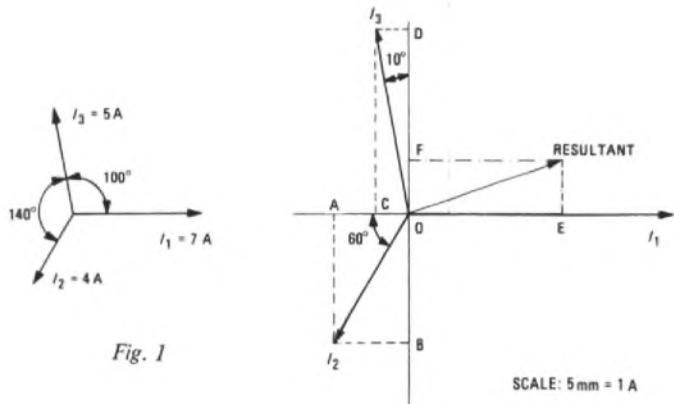

Fig. 1
**Q3** The neutral conductor of a 3-phase system carries the sum of 3 currents whose values and phase relationship are shown in Fig. 1.